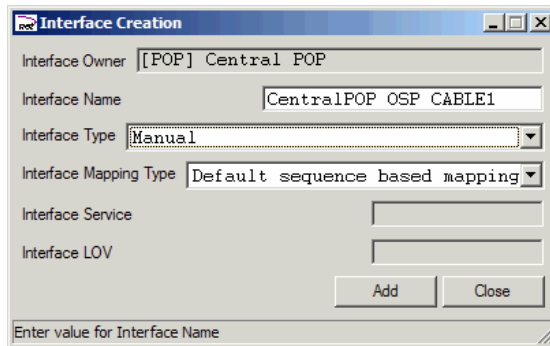

Figure 233 – Interface Creation panel.
3. Click the **New** button on the list panel and fill in the fields of the **Interface Creation** panel with the values shown in Figure 233, below.